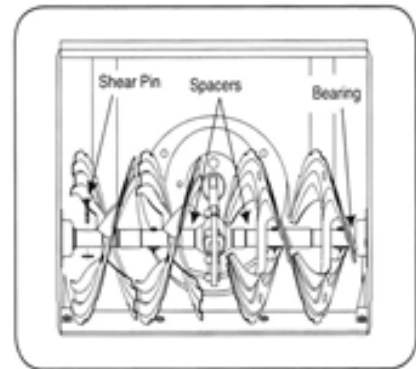

Fig. 26
- The auger is attached to the spiral shaft with two spring bolts and a splitter. If the auger should hit a foreign object or ice, the snow blower is designed so that the bolts will break. See figure 26.